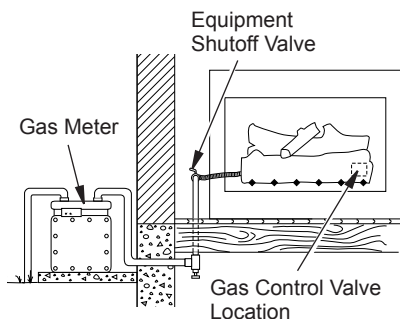

Figure 17 - Checking Gas Joints (Natural Gas Only)
1. Open equipment shutoff valve (see Figure 17).
- Close equipment shutoff valve (see Figure 17, page 15).